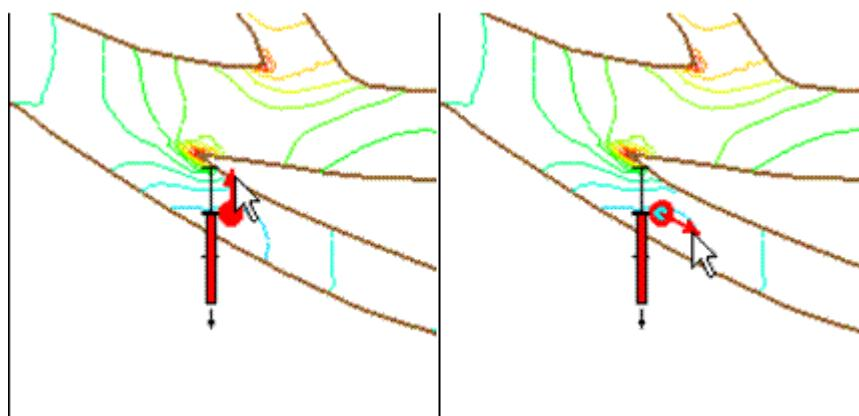

Figure 2 “Point 1” with an arrow angle of 0° and then rotated to 120°
2. Choose the **Select Feature Point**  tool and select the observation point arrow and rotate the point arrow approximately 120° by dragging the end of the arrow clockwise. Do not worry if this angle is not exactly 120°. The arrow just needs to be pointing in the general direction the velocity meter was set up in the field. This is usually in the direction of flow. Figure 2 shows a close-up of “Point 1” with the arrow pointing up (0° angle) and then the position of the arrow at an angle of approximately 120°.